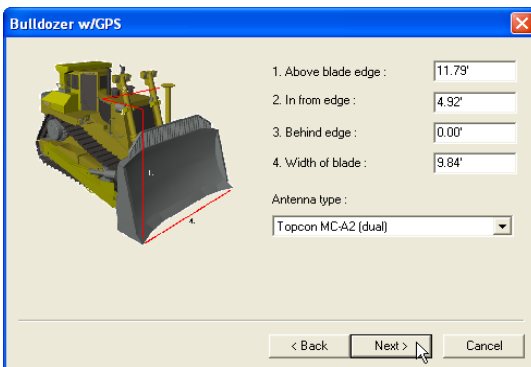

Figure 2-21. Enter Equipment and Sensor Measurements
4. Enter the measurements as described and illustrated on the screen (Figure 2-21), and click **Next**. The equipment measurements screen varies depending on the type of equipment and sensor selected.